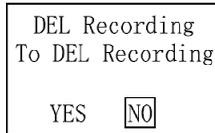

Fig. 15 Delete Recording interface
- 2) **Delete Recording:** After entering the main menu (with the second-level password), select and enter "3. Delete Recording" by "▲" or "▼", as shown in Fig. 15. Select Yes with "▲" or "▼" and press OK, and delete the stored recording after entering the correct second-level password. You may exit the settings by selecting No and pressing OK or Exit, and return to the previous main menu interface.